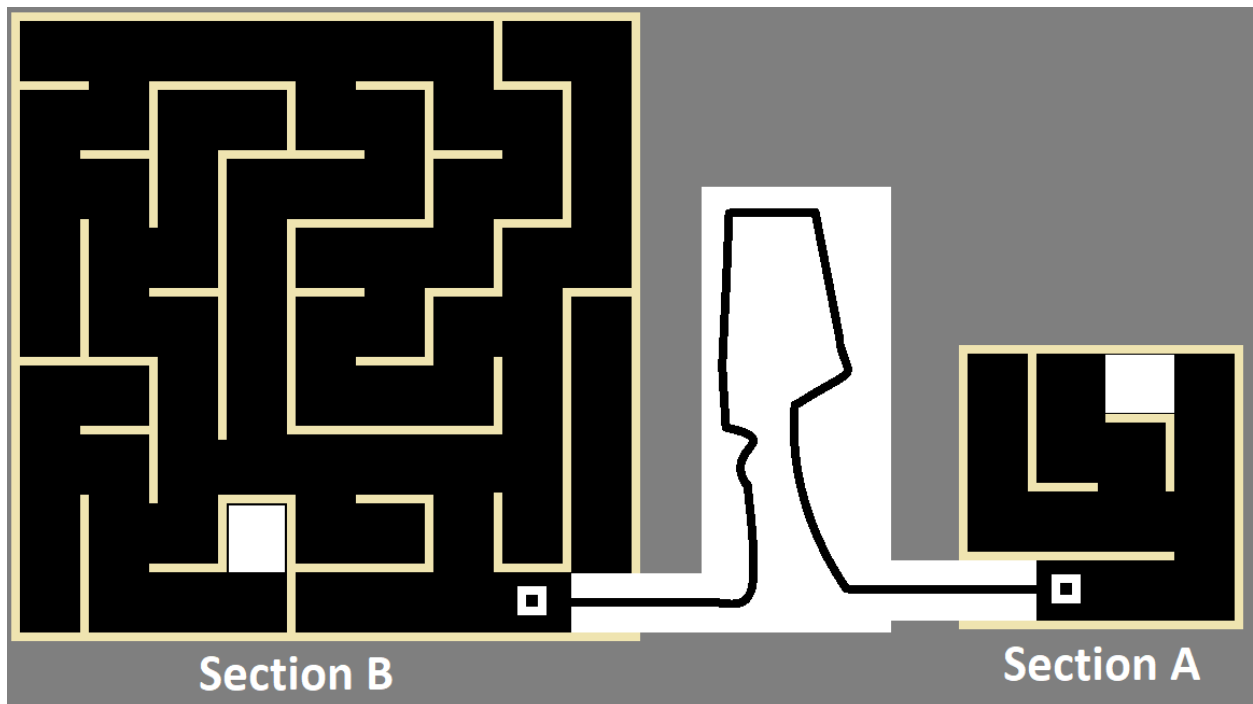

Figure 1
- Figure 1: Top view of both sections: Section A (4×4) and Section B (9×9) connected corner-to-corner via the bridge.